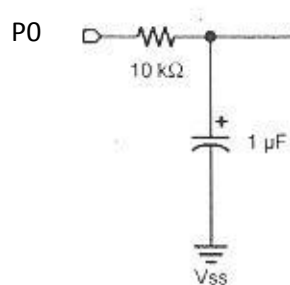

Figure 1. RC circuit
- 2) Build the RC circuit shown in Figure 1 and enter the code as provided in Figure 2 to cause the Boe-Bot to generate a continuously changing analog voltage signal in the shape of a triangle wave.